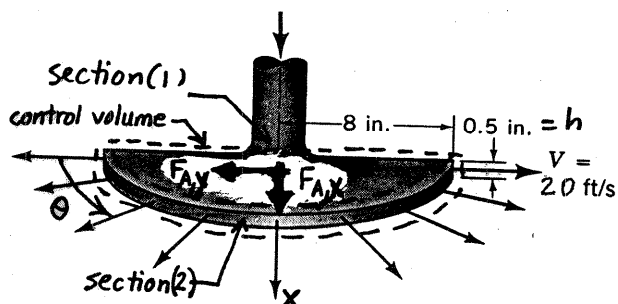

FIGURE P5.37
5.37 Water is sprayed radially outward over 180° as indicated in Fig. P5.37. The jet sheet is in the horizontal plane. If the jet velocity at the nozzle exit is 20 ft/s, determine the direction and magnitude of the resultant horizontal anchoring force required to hold the nozzle in place.